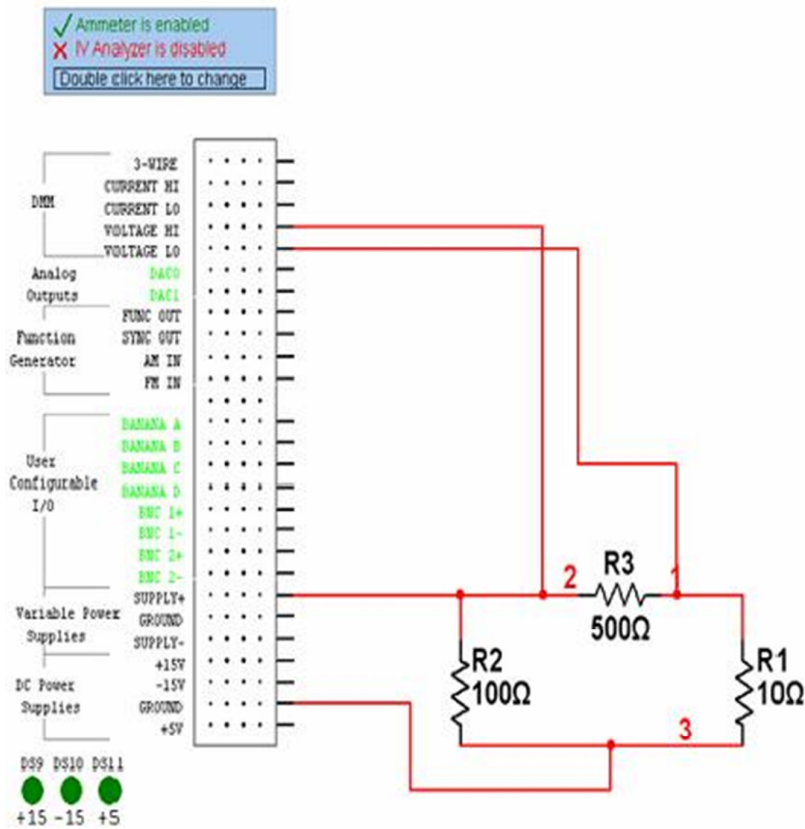

Figure 8
- Construct the circuit as shown in Figure 8.
- Complete the table below figure 8.